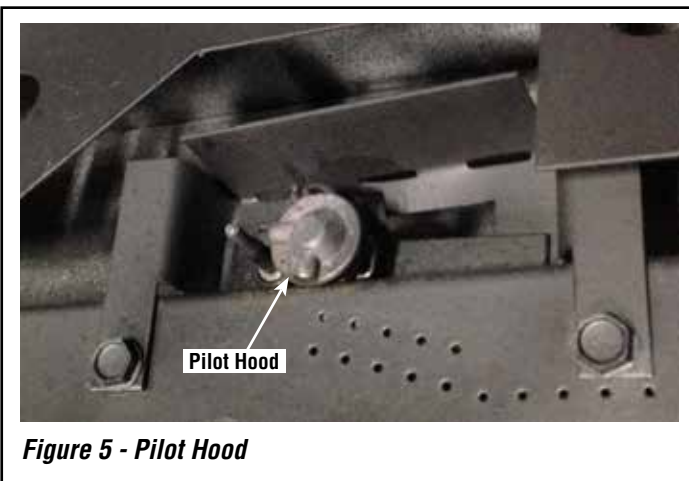

Figure 5 - Pilot Hood
Step 7. Reinstall pilot hood by pressing down firmly until a click is heard. See *Figure 5*.